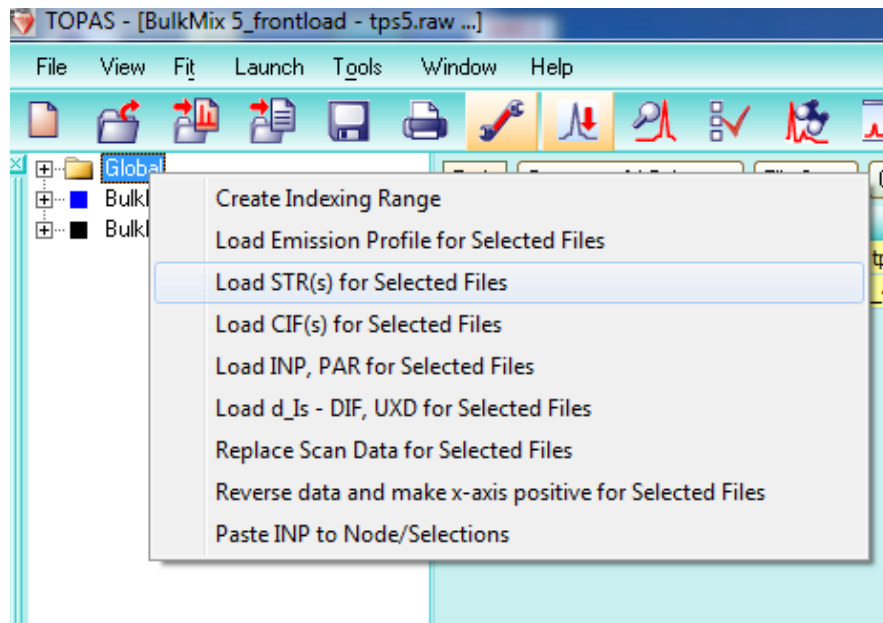

Figure 17. The 'Global' pathway to Load STR(s)
2. Back in the Parameter Window, right click on 'Global' and select 'Load STR(s) for Selected Files' (Figure 17).